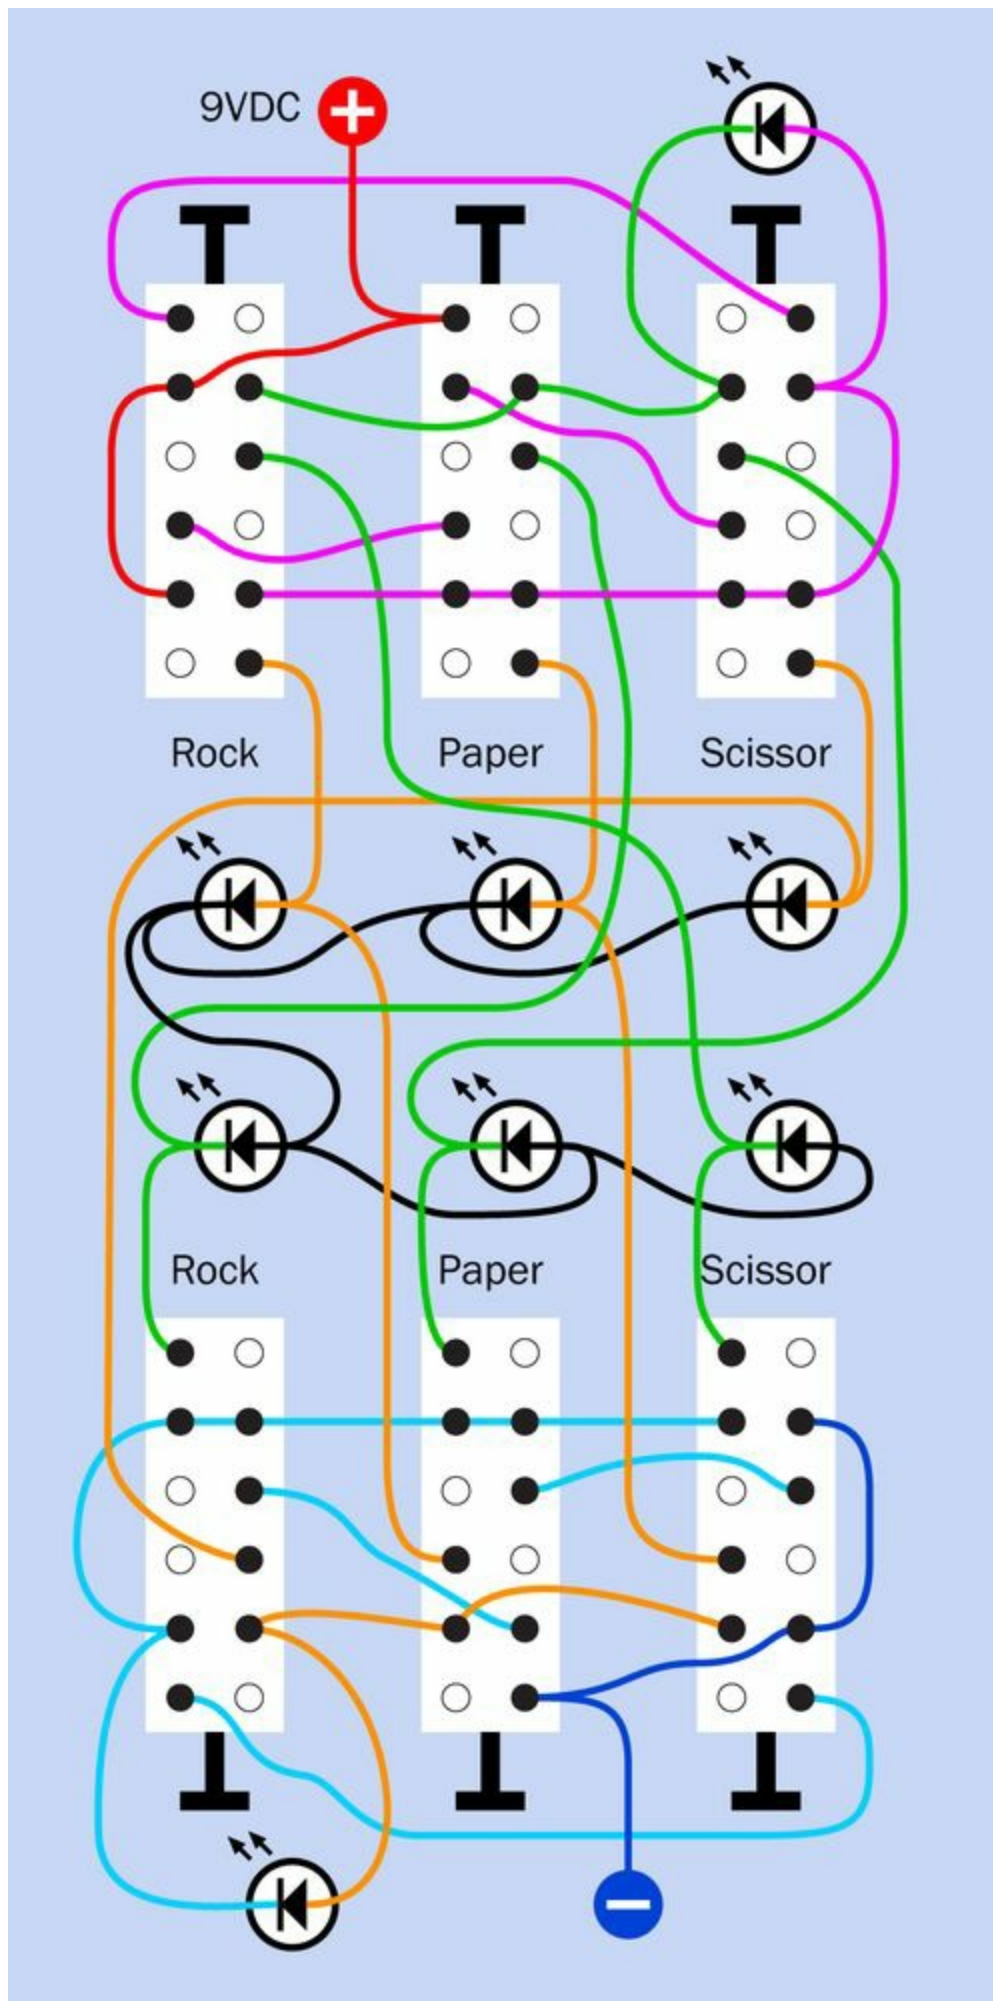

Figure 18-16. Wiring diagram for the enhanced, switched version of the Rock, Paper, Scissors game, including cheating
**Figure 18-16** shows the switches hooked up including the cheating-prevention feature. It really doesn't add much to the soldering time and is a nice feature to have. If you already wired the un-cheat-proofed version, the only wires you will have to change are the blue and red ones that provide power. Everything else is additional.